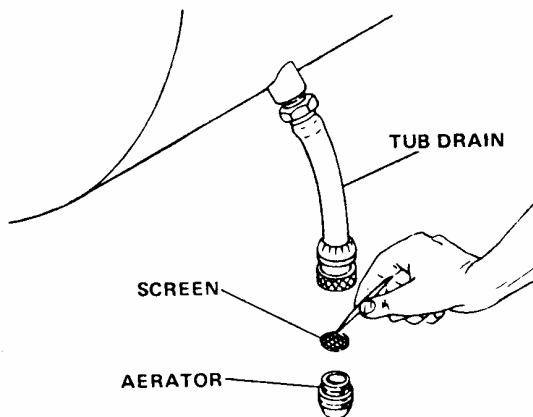

Figure 4-1. Cleaning Tub Drain Screen
3. Check to be sure screen in media tub drain is clear of foreign objects. On later model BB2016 and BB1224 Burnishers this screen is located on the end of the drain hose inside the faucet aerator. Remove the aerator and clear or dislodge foreign objects using a wooden toothpick or similar item. (See fig 4-1.)